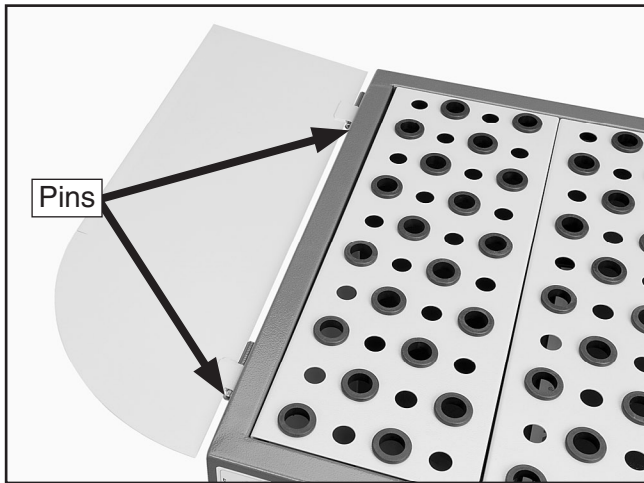

Figure 9. Left panel installed.
- Secure the right and left panels with the remaining pins (**Figure 9**).